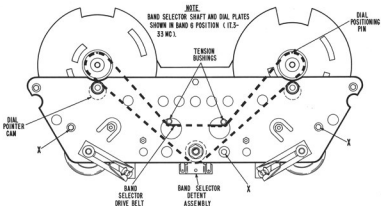

Fig. 13. Front View of Gear Drive Mechanism
7-5. BAND SELECTOR DRIVE BELT REPLACEMENT (Refer to Fig. 13)
10. Remove gear mechanism from chassis by removing three self-tapping hex head screws marked "X" in Fig. 13.
CAUTION: To prevent scratching the dials, position the dial pointer cams downward as shown in Fig. 13 and bend the dials sufficiently when removing to provide clearance between the dial and dial pointer cams.
16. To replace drive belt, reverse sequence used above for removing belt. When replacing belt, position both dial plates so that cutout at outer edge of dial plate is vertical as shown in Fig. 13. This is correct position of dial plates when the Band Selector is set at Band 6.